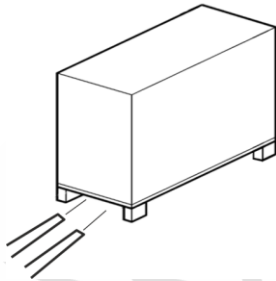

Fig. 5: Transportation with a fork lift
1. Drive the fork lift with the forks as shown in Fig. 5.